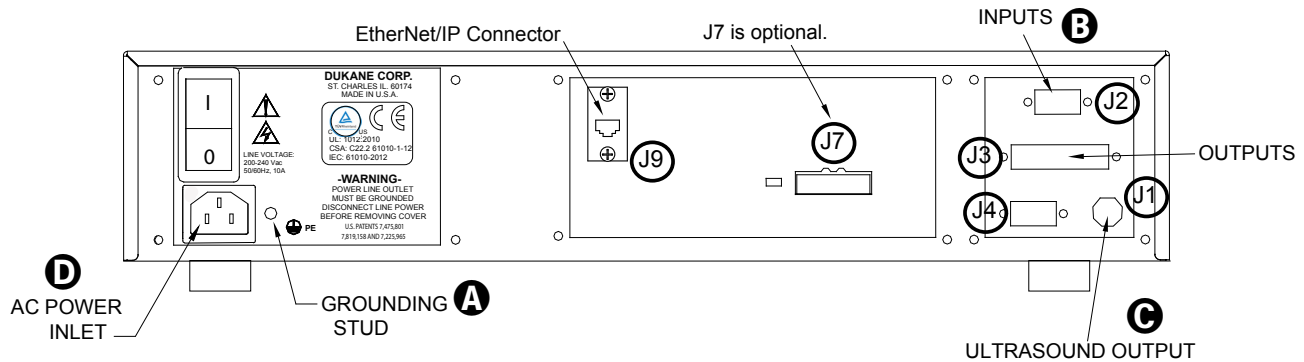

Figure 3-6 Generator - Rear View (low profile model)
See Figure 3-6 on Page 18.
1. Ground the generator chassis using the supplied 14-Gauge wire, and attach it to the grounding stud: **A** in Figure 3-6.
3. Input Cable - Attach the automation control cable from the user-supplied automation equipment to the system input HD-15 connector, J2 on the I/O panel: **B** in Figure 3-6.
5. Attach the high voltage coaxial cable from the probe to the ultrasound output connector J1: **C** in Figure 3-6.
6. Connect the AC power cord to the generator IEC power inlet connector, and plug the other end into an approved AC outlet: **D** in Figure 3-6.